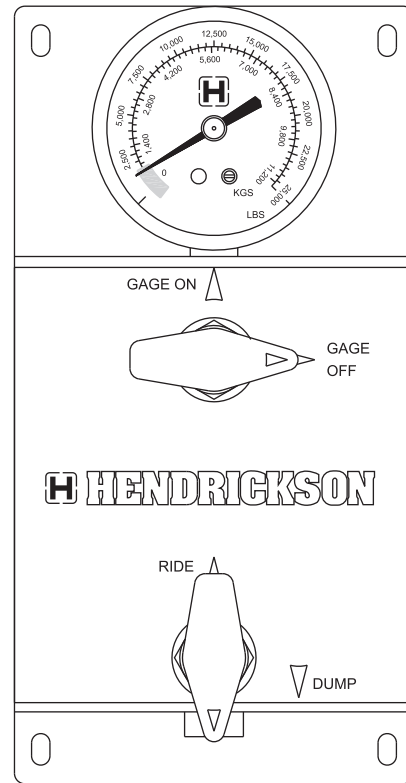

Figure 3. Gage valve in the GAGE OFF position
1. Rotate the dump valve (the lower ball valve) clockwise to the DUMP position (figure 3).